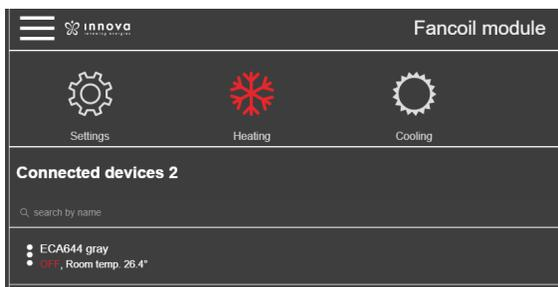

Figure 8.5
6. The scenarios, selectable in the device configuration menu as shown in Figure 8.5, automatically enable multiple flags. It will then be possible to join some useful functions by virtue of the intended Use. The possible scenarios are 3 and are shown here:
8. Go back to the fancoils page. The device will now appear configured with the labels (Figure 8.5).